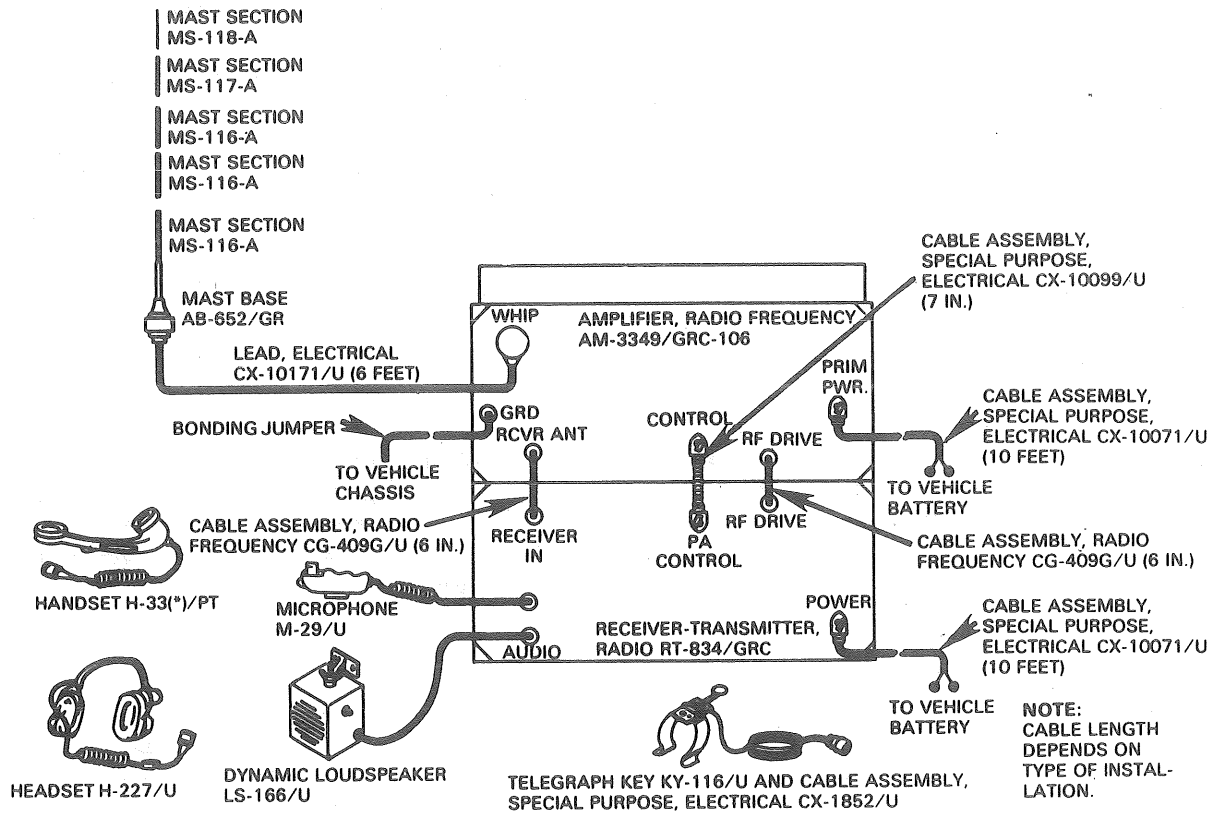

Figure 2. Installation diagram for Radio Set AN/GRC-106(*).
2. Connect all cables. (Refer to fig 2, and TM 11-5820-520-12, para 2-6.)
3. Connect audio accessories. (Refer to fig 2, and TM 11-5820-520-12, para 2-6.)
4. Install whip antenna. (Refer to fig 2, and TM 11-5820-520-12, para 2-6b and c.)